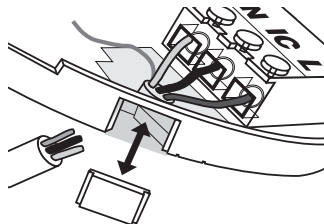

Fig.5
- IC: Interconnect** - see figures 5 and 6 and further information in Section 2.6.
- (b) the mounting plate has a removable section, take it out to interface directly with 25mm trunking as shown in Figure 5. If interfacing to 16mm trunking carefully cut around the marked section, leaving the top intact and replace the section. (If you are not using surface wiring, the removable section must be left in place for electrical safety reasons).